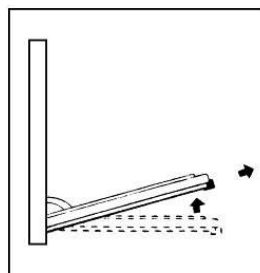

Fig 2
- Now, shutting the door slightly, you can lift it out by pulling out the hooks "A" as shown in figure 2.